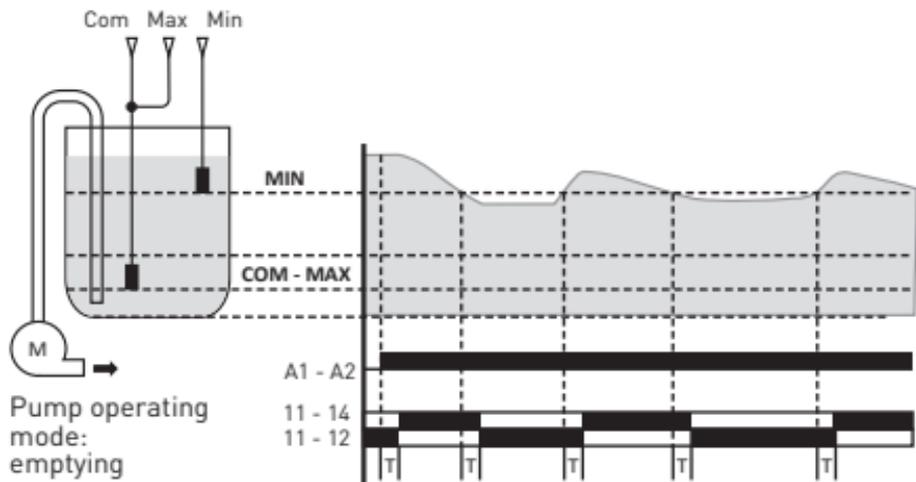

Fig. 15
Overfill protection, two contacts (electrodes), refer to Figure 15. Connect the wires from the sensors to the contact "Min" and the closed contacts "Com" – "Max". Liquid level is over the setting (MAX), the contacts switch to position 11-14 with the time delay (T), the pump starts. When the preset level (MIN) is reached, the relay switches off with the time delay (T), the contacts switch to position 11-12, the pump stops. The relay is in OFF position until the liquid level is over the maximum (MAX). When the relay switches on with the time delay (T), the contacts switch to position 11-14, pump starts.